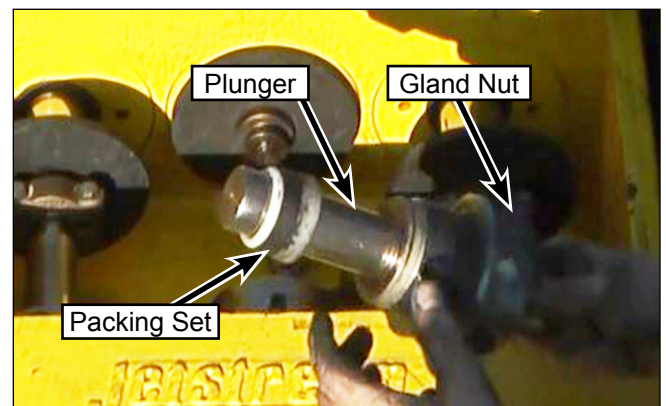

Figure 52: Packing Removal.
8. Remove the packing set (Figure 52).